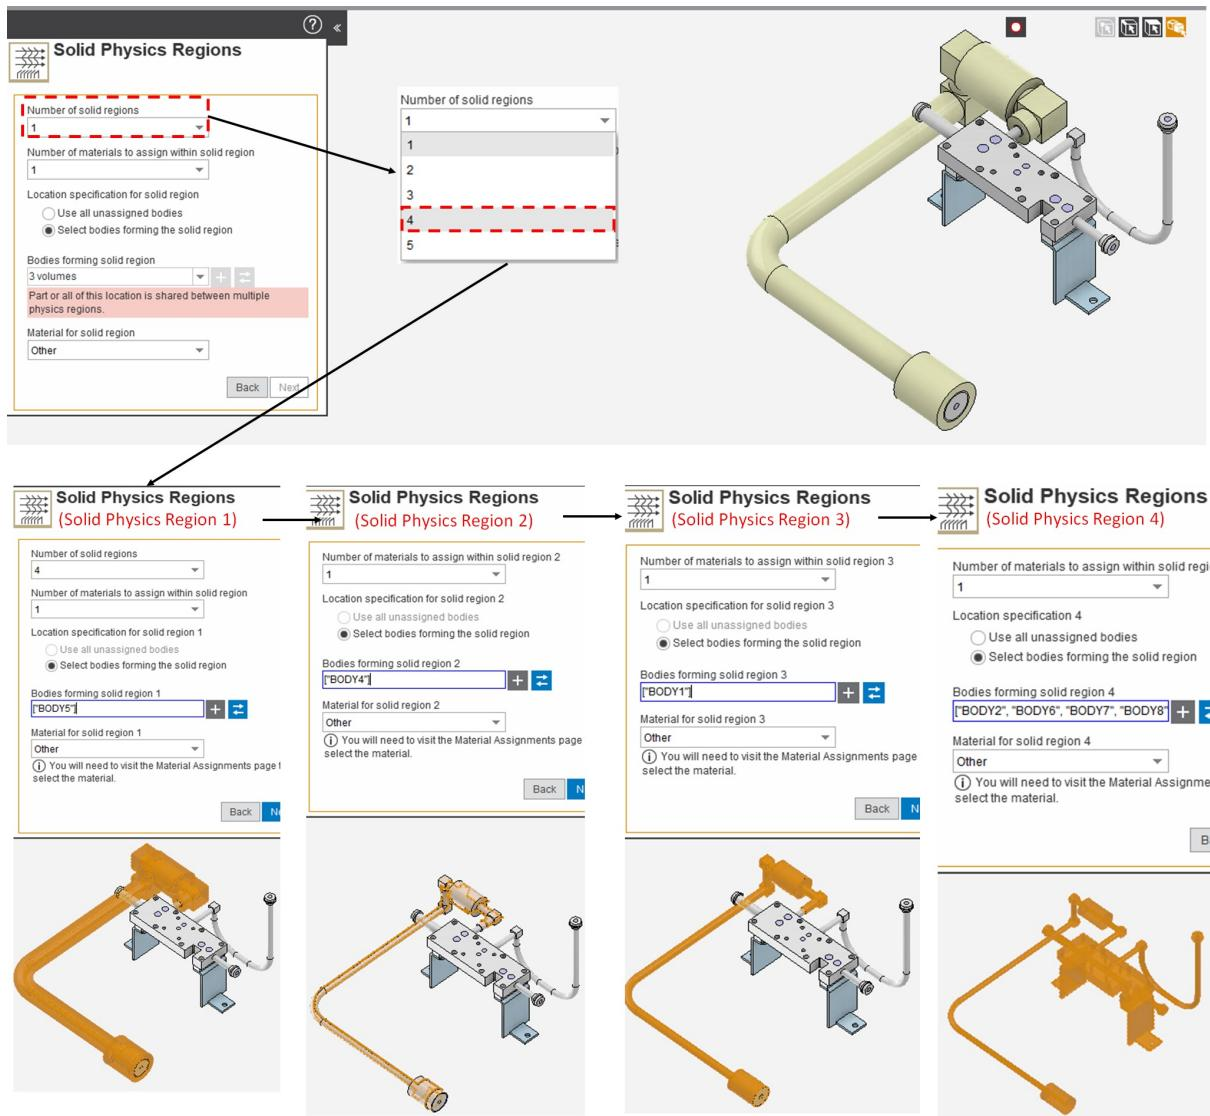

Figure 2.5:
- Once your Fluid Physics Regions (e.g., 2 fluid regions of Air) have been defined the next step is to define your Solid Physics Regions. As shown in Fig. 2.5, select the number of Solid Physics Regions you have in your geometry and apply the appropriate material (e.g., 4 Solid Physics Regions: Insulation in **Solid Physics Region 1**, Heating Wire in **Solid Physics Region 2**, Liner in **Solid Physics Region 3**, and Weldment in **Solid Physics Region 4** in this example). For the application of our Heat Sources later, a thing to remember is to make each heat source its own Solid Physic region (if they will have different wattages applied). Click next and repeat this process until all your Solid physics regions have been defined. Use the “hide body” function to access desired volumes where necessary. (Note: You can have as many Fluid and Solid regions as desired, however the setup has pre-defined caps in the drop downs. If more are desired, they can be added later.)